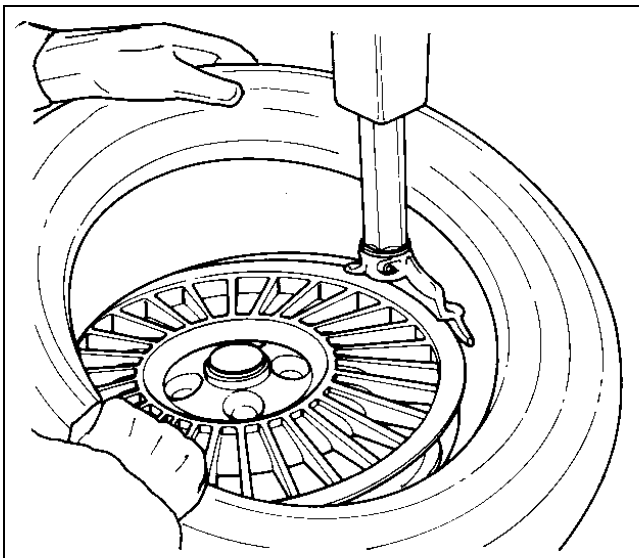

Fig.20
B. Lock the rim on the chuck and rotate it to have the valve at the 2 o'clock position. Place the tire to be mounted on the rim. Swing the mounting arm forward so that the mount/demount tool is in the working position. Engage the lower bead OVER the mounting wing and UNDER the mounting finger of the mounting tool. Turn the wheel clockwise and push the tire down into the drop center, opposite to the mount/demount head (Fig.20).